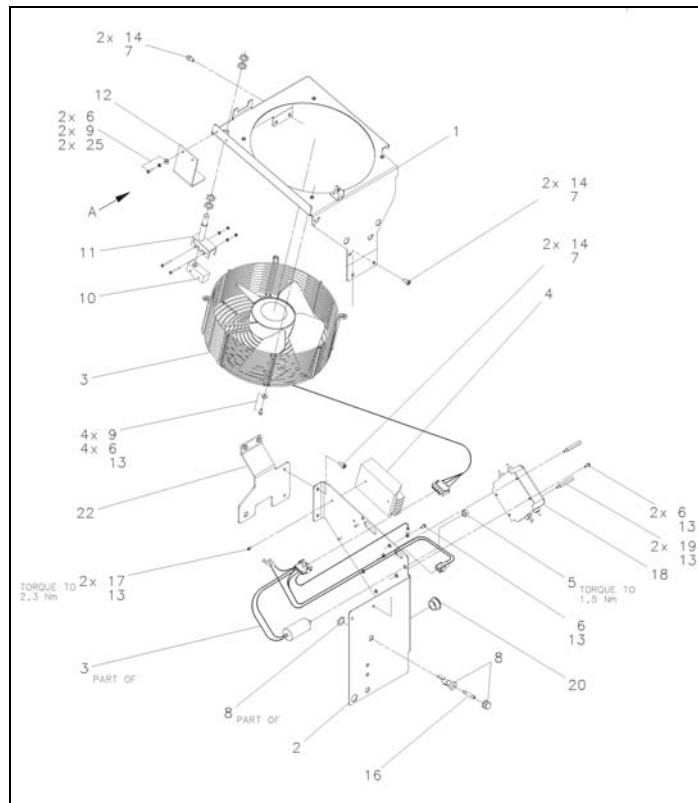

Figure 6. Complete Right Hand Fan Assembly
4. Remove the fuse assembly (item 8, Figure 6) and install on new assembly.
5. Remove the AC power supply in the back (item 4, Figure 6) that is fastened through the front. It can be left attached to the harness and hanging next to the assembly.
6. Pull fuse and contact switch wiring harness through the fan bracket assembly grommet and remove the AC filter in the back (item 18, Figure 6).
9. Remove the Lexan cover (item 12, Figure 6), covering the limit switch, from the assembly.
10. Disconnect the limit switch (items 10 and 11, Figure 6) from the old cable harness. Note harness position on switch (Normally Open (NO) and Common Terminals).
13. Install new Lexan cover (2317478) (item 12, Figure 6) on new assembly.
14. Remove fan (item 3, Figure 6), apply Loctite 222 to each screw and install fan on new assembly (item 1, Figure 6) (2309247).